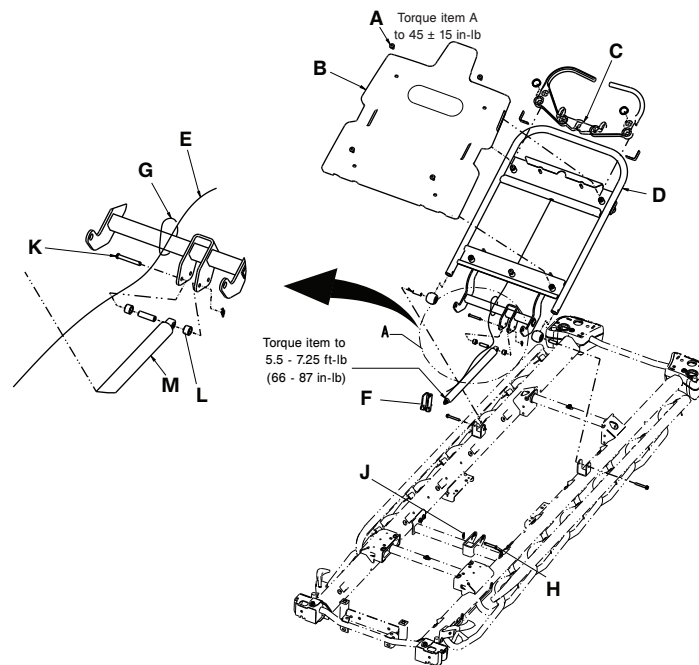

Figure 26 – Fowler gas cylinder replacement
1. Using a 3/8" drive ratchet and a T40 Torx driver, remove the four truss head machine screws (A) that secure the plastic Fowler backrest skin to the Fowler backrest frame (Figure 26).